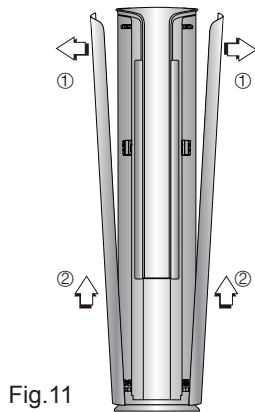

Fig.11
- After loosening the screws, pull the upper part of left and right side plates outwards by referring to fig.11 ① and lift the door plate upwards by referring fig.11 ②, and then left&right side plates can be removed.